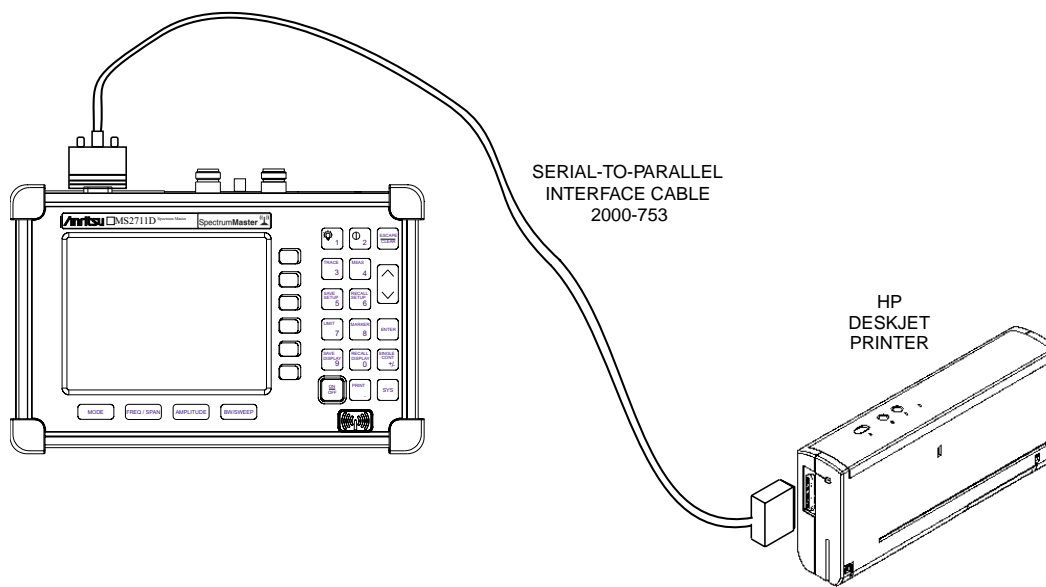

Figure 2-19. Printer Setup
Figure 2-19 shows a setup diagram for two types of printers. Refer to the printer manual for setup details.
Step 1. Connect the printer as shown in Figure 2-19.